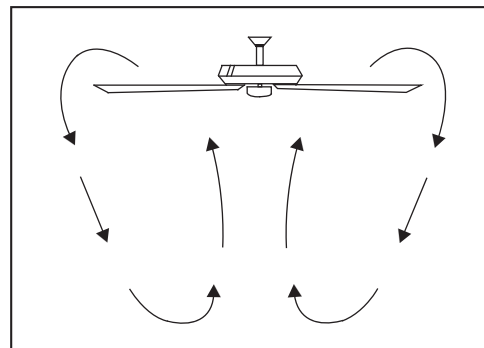

Figure 19
**Cool weather** - (Clockwise Direction) An upward air flow moves warm air off the ceiling as shown in Figure 19. This allows you to set your heating unit on a lower setting without affecting your comfort.